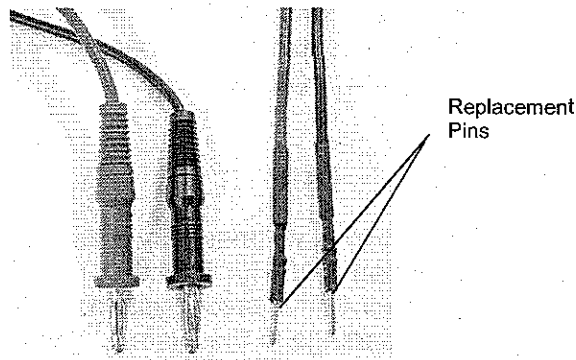

Figure 2-4b
2. Replace the lead pins with smaller male pins (equivalent: Tyco/Amp P/N 66591-1, male pin – 22-18 AWG). Crimp the pins to the wires and insulate with heat shrink tubing or electrical tape (see Figure 2-4b).